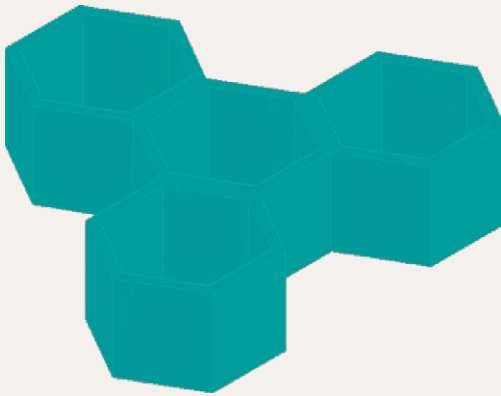

Fig. 12.44 Exercise 2
2. Fig. 12.44 shows a 3D model constructed from four polysolids which have been formed into a union using the **Union** tool from the **Home/Modify** panel. The original polysolid was formed from a hexagon of edge length **30**. The original polysolid was of height **40** and **Width 5**. Construct the union.